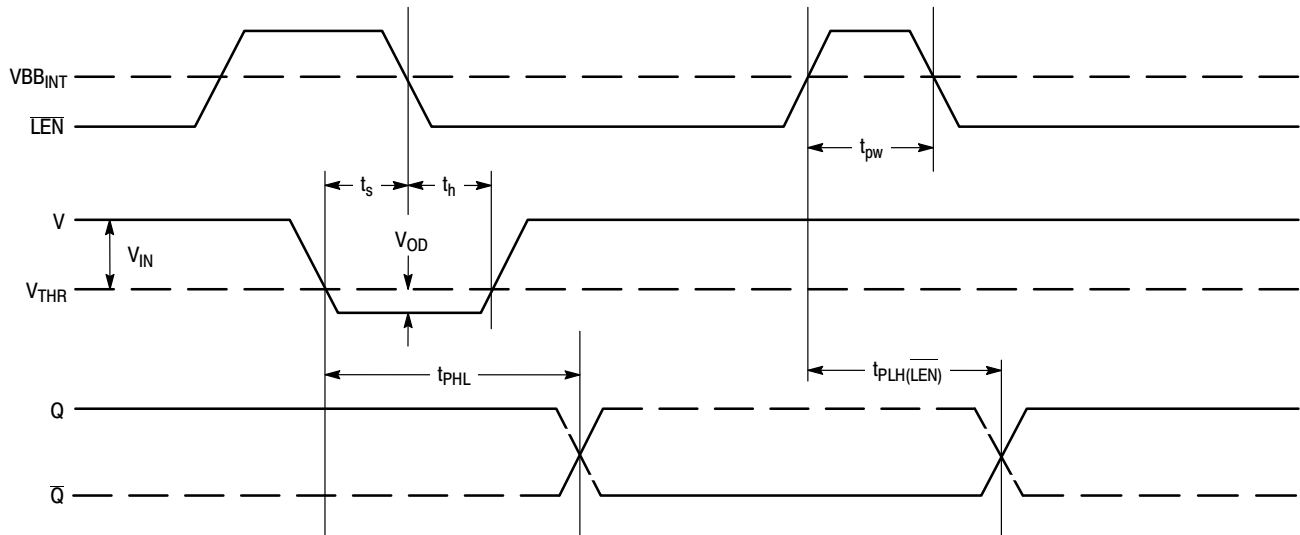

Figure 5. Input/Output Timing Diagram
12. Refer to Figure 5 and note that the input is at 2.5 V TTL levels with the input threshold range between the 20% and 80% points. The delay is measured from the crosspoint of the input signal and the threshold value to the crosspoint of the Q and  $\bar{Q}$  output signals.
The timing diagram (Figure 5.) is presented to illustrate the MC10E1652's compare and latch features. When the signal on the  $\overline{LEN}$  pin is at a logic high level, the device is operating in the "compare mode," and the signal on the input arrives at the output after a nominal propagation delay ( $t_{PHL}$ ,  $t_{PLH}$ ). The input signal must be asserted for a time,  $t_s$ , prior to the negative going transition on  $\overline{LEN}$  and held for a time,  $t_h$ , after the  $\overline{LEN}$  transition. After time  $t_h$ , the latch is operating in the "latch mode," thus transitions on the input do not appear at the output. The device continues to operate in the "latch mode" until the latch is asserted once again. Moreover, the  $\overline{LEN}$  pulse must meet the minimum pulse width ( $t_{pw}$ ) requirement to effect the correct input-output relationship. Note that the  $\overline{LEN}$  waveform in Figure 5. shows the  $\overline{LEN}$  signal swinging around a reference labeled  $V_{BBINT}$ ; this waveform emphasizes the requirement that  $\overline{LEN}$  follow typical ECL 10KH logic levels because